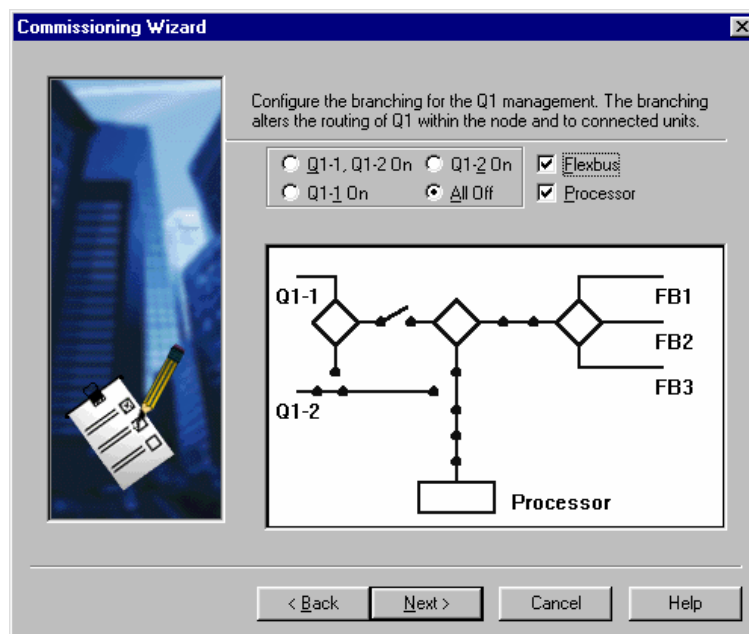

Figure 12. The correct connection of control signals when Q1-channel is not used.
6. Establish connection over Q1 - bus for control traffic. In this laboratory work Q1 bus is not used. For not using Q1 make a connection accordingly to figure 12.